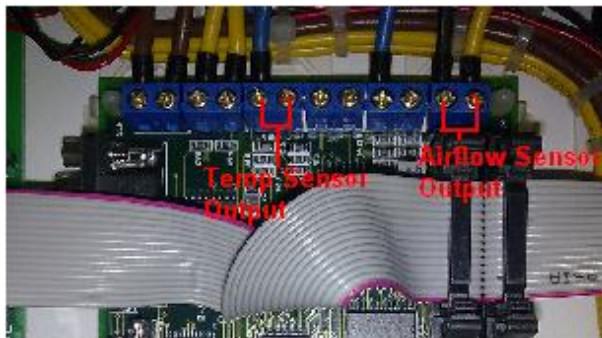

Figure 5-2
- Using multimeter, check the exhaust sensor's output voltage (DC) at channel AIN1(+) and J1(-) on main board (See Figure 5-2 below).
- Using multimeter, check the temperature sensor's output voltage (DC) at channel AIN4(-) and J4(+) on main board See Figure 5-2.